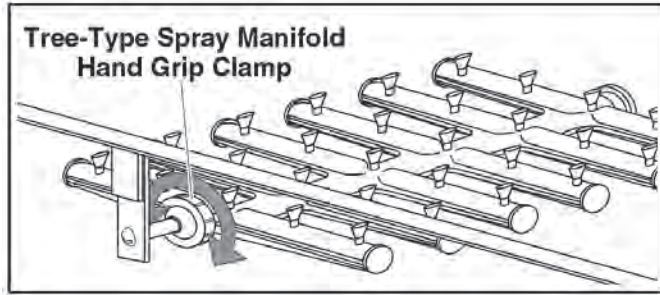

Figure 14
- b. Unscrew the Manifold Hand Grip clamp to loosen the Spray Manifold (Figure 14).